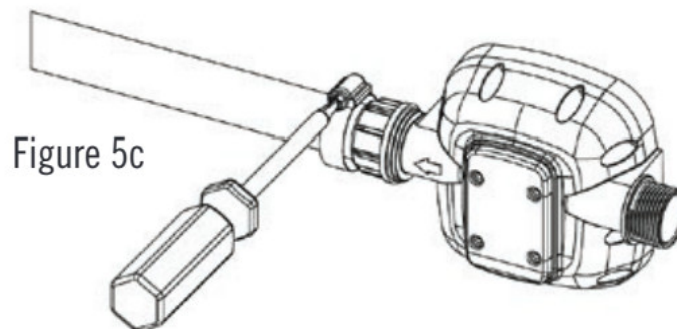

Figure 5c
6. Tighten each hose clamp to secure suction and discharge hoses to all barb fittings to prevent fluid leaks (see Figure 5c, page 5).